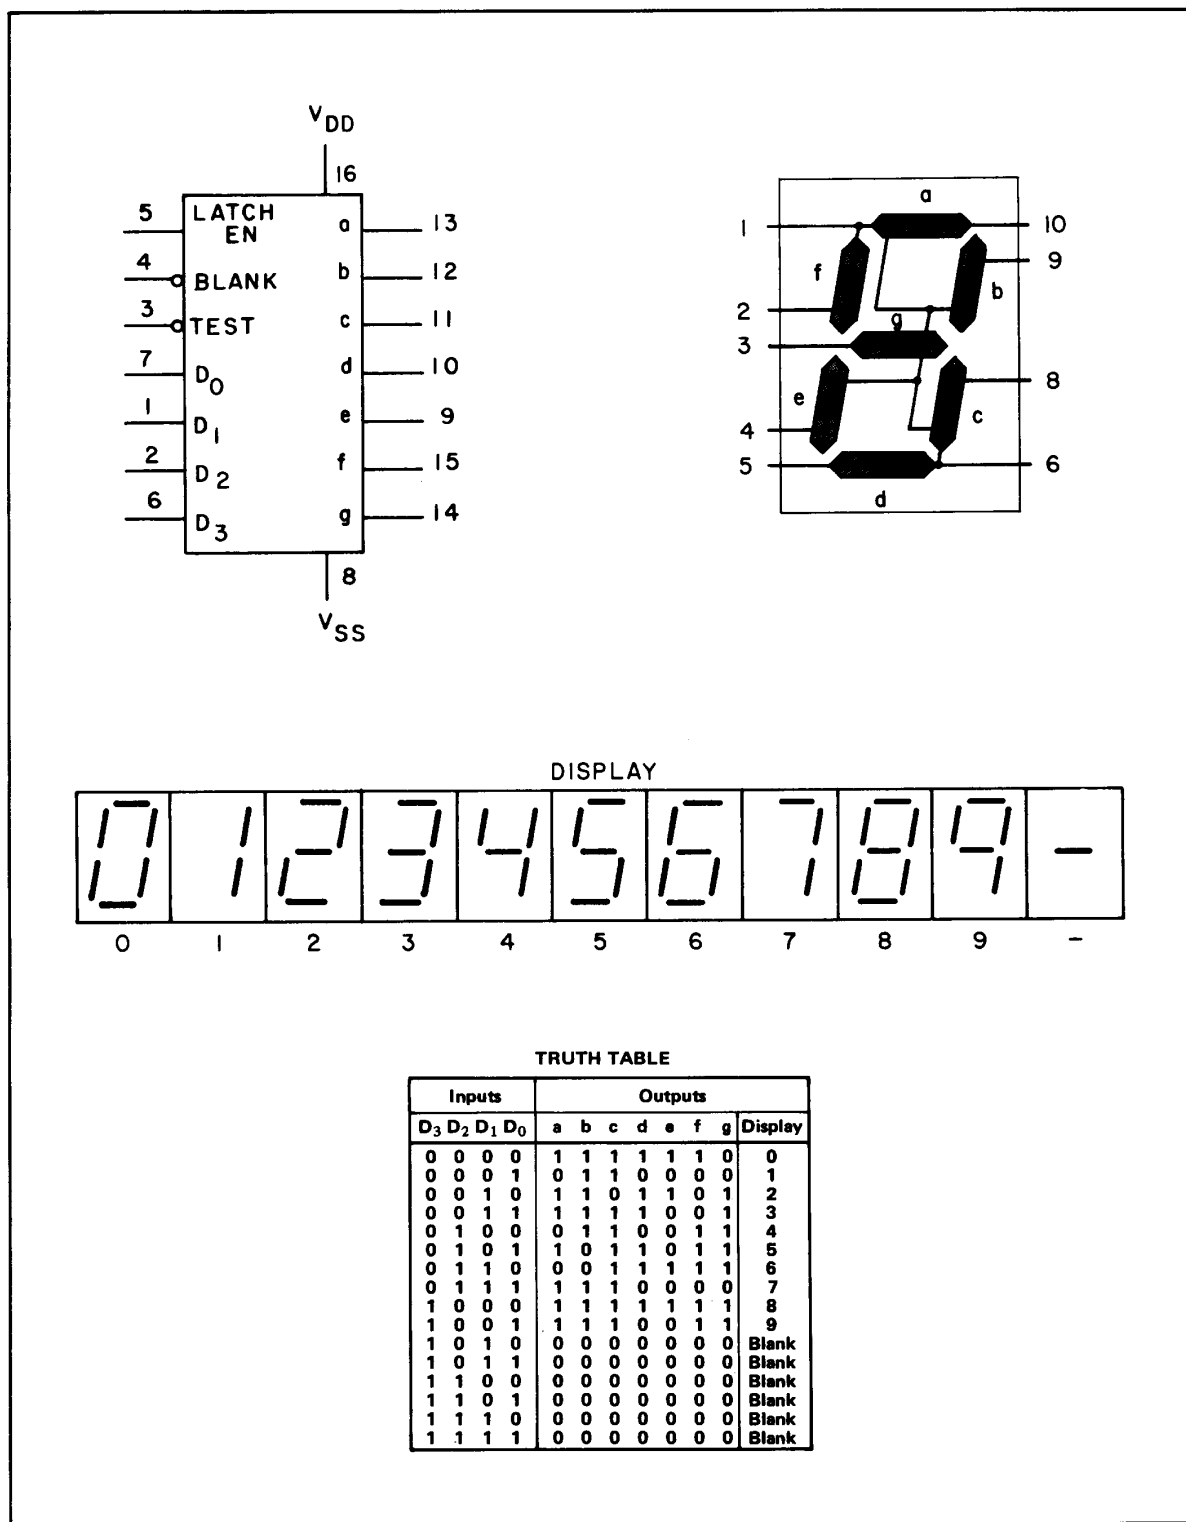

Figure 8-24. Segment Driver
Figure 8-24 shows the pin connections to A2U3, the seven segments of a numeric display, and a truth table. The Latch Enable (HLE), pin 5, is wired to ground (logic low). The Blanking Input (LBI), pin 4, and the Lamp Test (LLT), pin 3, are always at logic high. A2TP2 (LT) may be grounded to test the numeric displays by lighting all seven segments of A22U2 through A22U4 and segments b and c (the numeral 1) of A22U1. The Lamp Test does not test the minus sign, segment g.